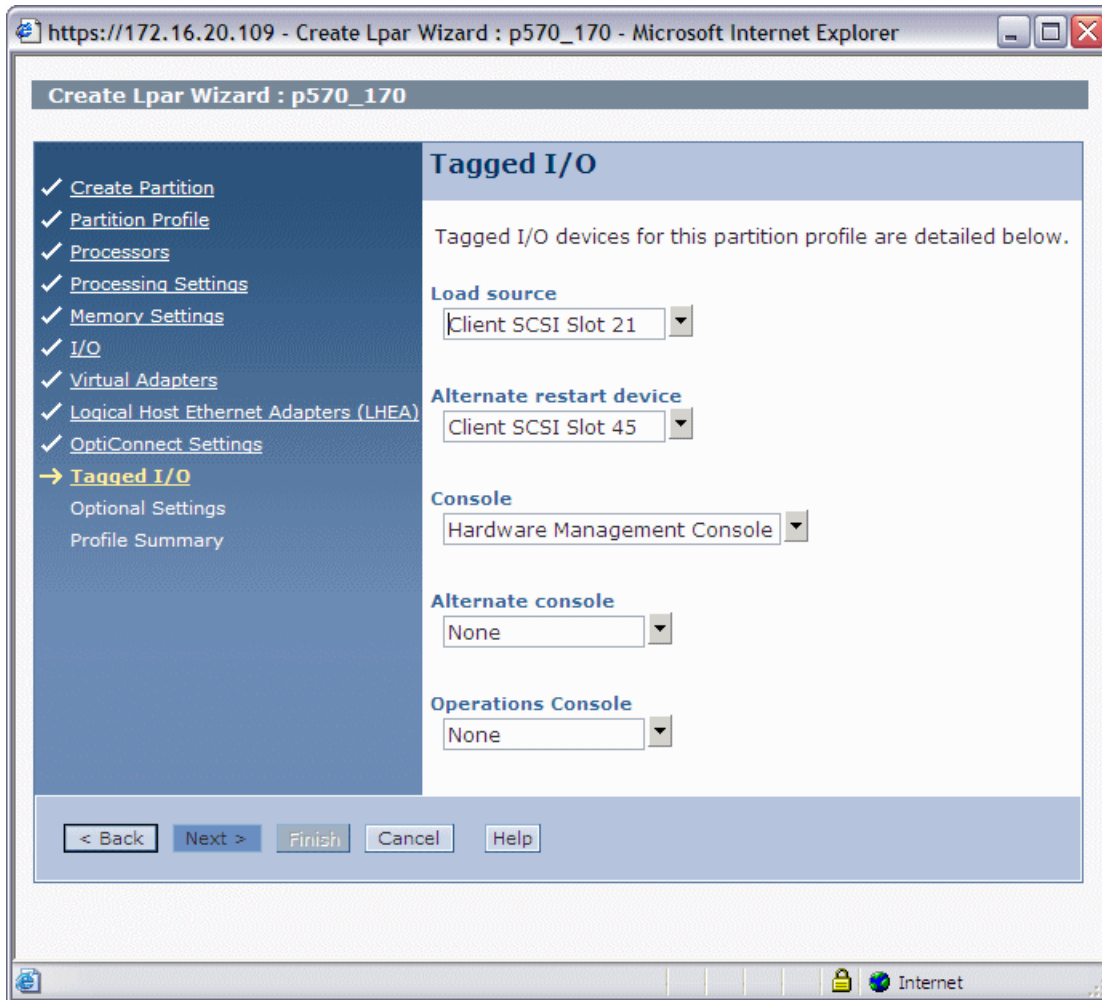

Figure 13-9 IBM i tagged I/O settings dialog
11. For an IBM i client partition only, specify the **Load source** and **Alternate restart device** (D-IPL device, in this example the virtual DVD device) adapter settings and optionally change the Console settings as shown in Figure 13-9.